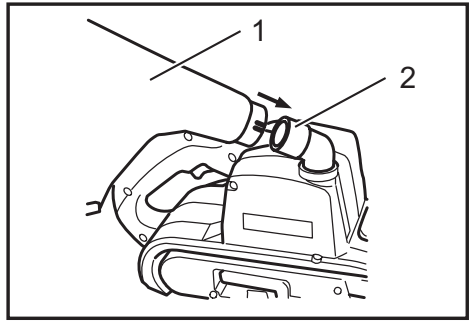

Fig.5
► Fig.5: 1. Dust bag 2. Dust spout